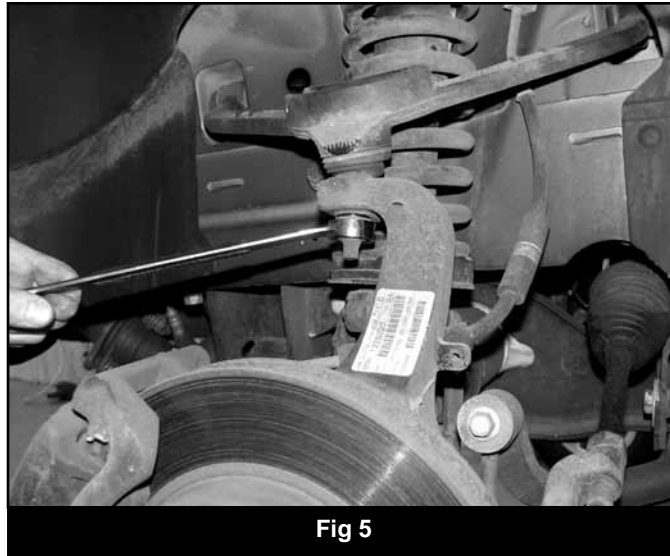

Fig 5
14. Disconnect the upper ball joint from the steering knuckle by removing the nut and striking the knuckle near the ball joint with a hammer. The ball joint can also be removed with a pickle fork but take care not to damage the ball joint boot (Fig 5).